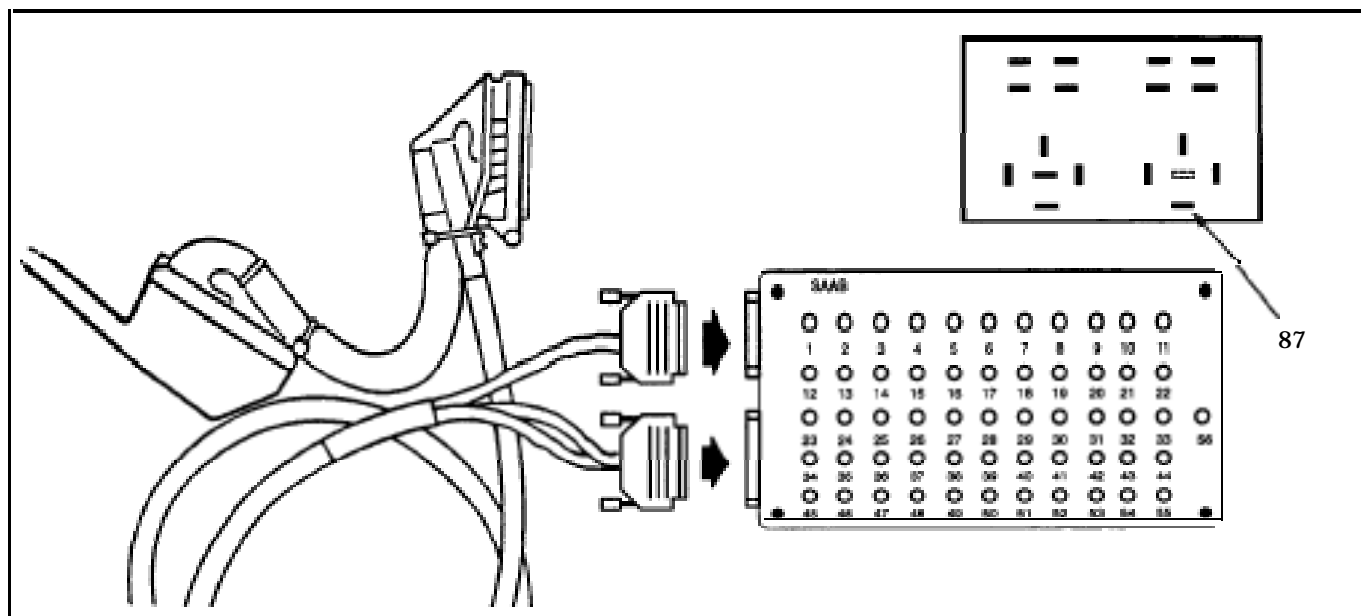

Figure 4. 55-pin cable 86 11 030 and Breakout Box 86 11 006
1. Unplug the **55-pin** connector from the **ABS** control module and connect the breakout box to the wiring harness by means of **55-pin** cable 86 11 030, Figure 4. Do **not** connect the ABS control module.
1. Unplug the **55-pin** connector from the **ABS** control module and connect the breakout box to the wiring by means of **55-pin** cable 86 11 030, Figure 4. Do **not** connect the ABS control module.